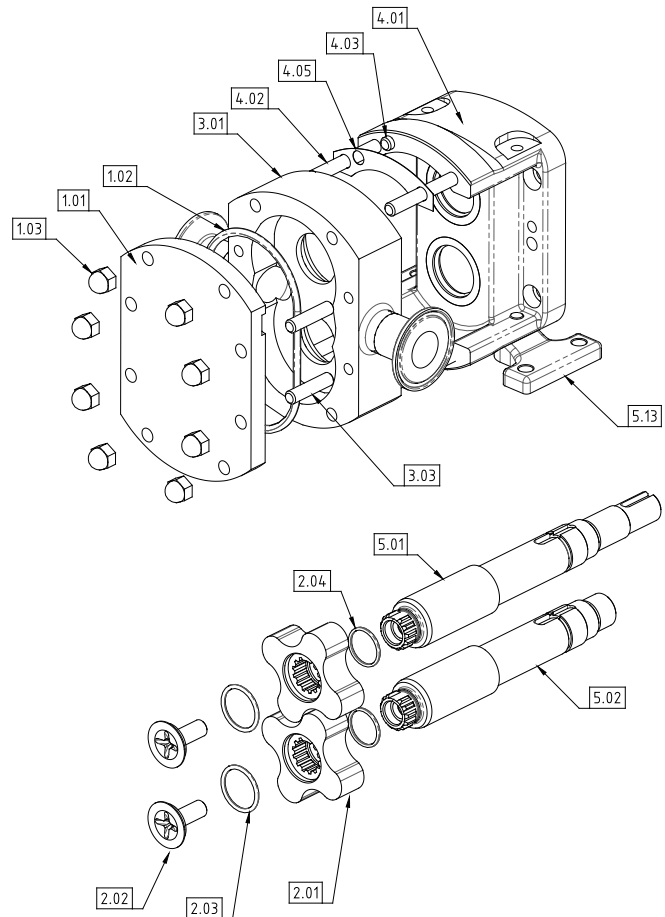

Figure 15
- For CP10 Pump – refer to Figure 15.
(After completing section 4.1.1) - see Figure 15.